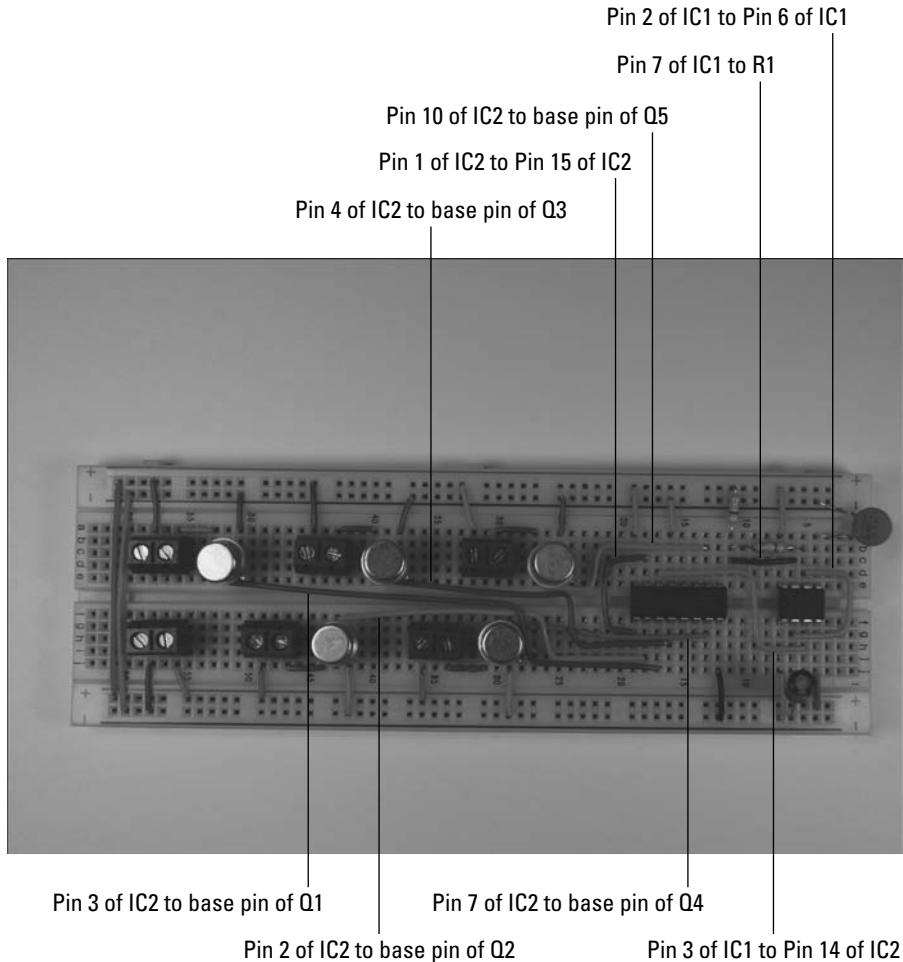

Figure 10-13:
6. Insert wires to connect the ICs, terminal blocks, and discrete components, as shown in Figure 10-13.